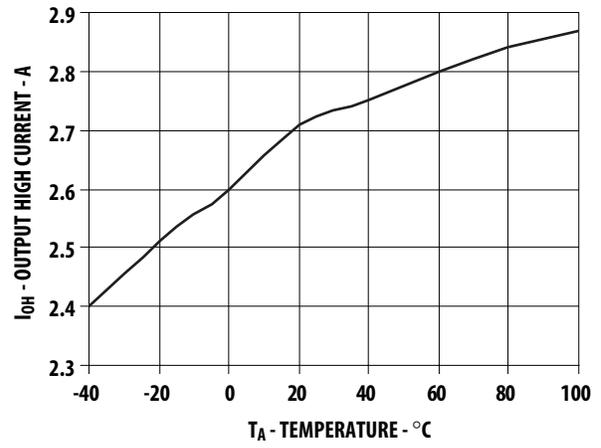

Figure 2. I_{OH} vs. Temperature
– maximum values allowed in the event of a failure, also see Figure 2.